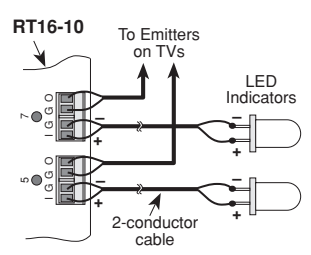

Fig. 6 Connecting LED Indicators to the "I" and "G" Terminals
7. The "I and G" terminals on each of the output terminal jacks are provided so that LED indicators, placed near each TV Monitor (if desired) will give a visual indication of the currently controlled Monitor. Refer to **Fig. 6**. Use LED's with an operating current rating of 20 to 25 mA.